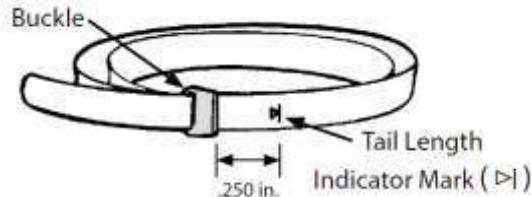

Figure 27
- a. Feed the end of the band through the narrow slot on the buckle twice until the indicator mark is within approximately 0.250 inch (6.35 mm) of the buckle slot. This will create a double looped band (Figure 27).